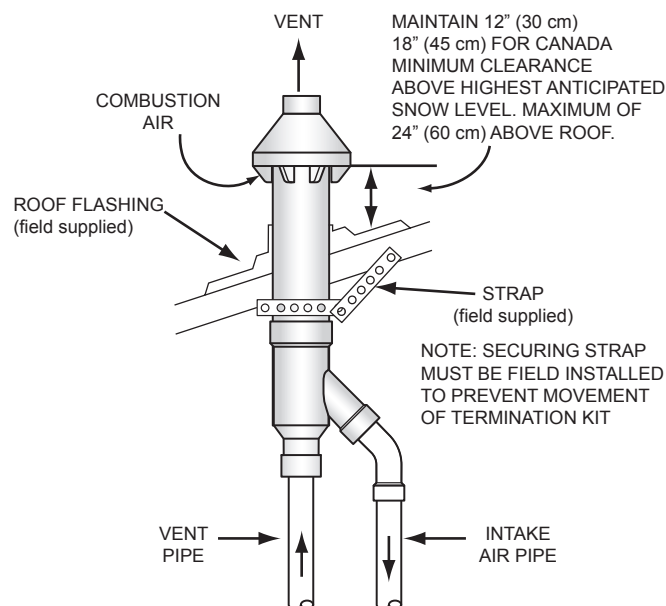
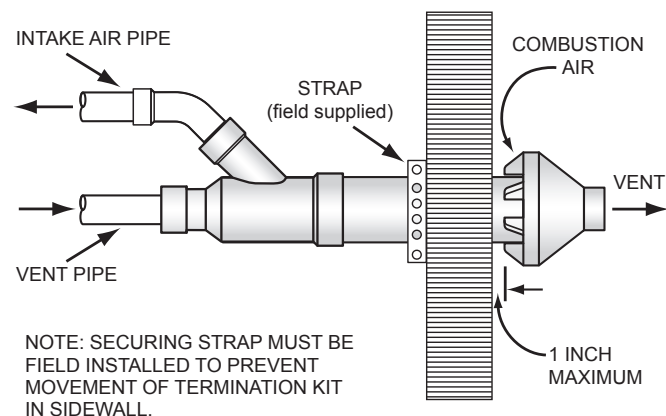

Figure 29. Concentric Termination Clearances - Vertical Installation
Figure 30. Concentric Termination Clearances - Side-Wall Installation
3. When installing a concentric termination vertically through the roof; ensure that all exterior vertical clearance requirements for the concentric termination, shown in *Figure 29* (page 35) are being maintained. These clearances and those cited by local and national codes must be maintained.
Assemble and install the concentric termination. Refer to *Figure 28*, *Figure 29* (page 35) and *Figure 30* for these instructions: